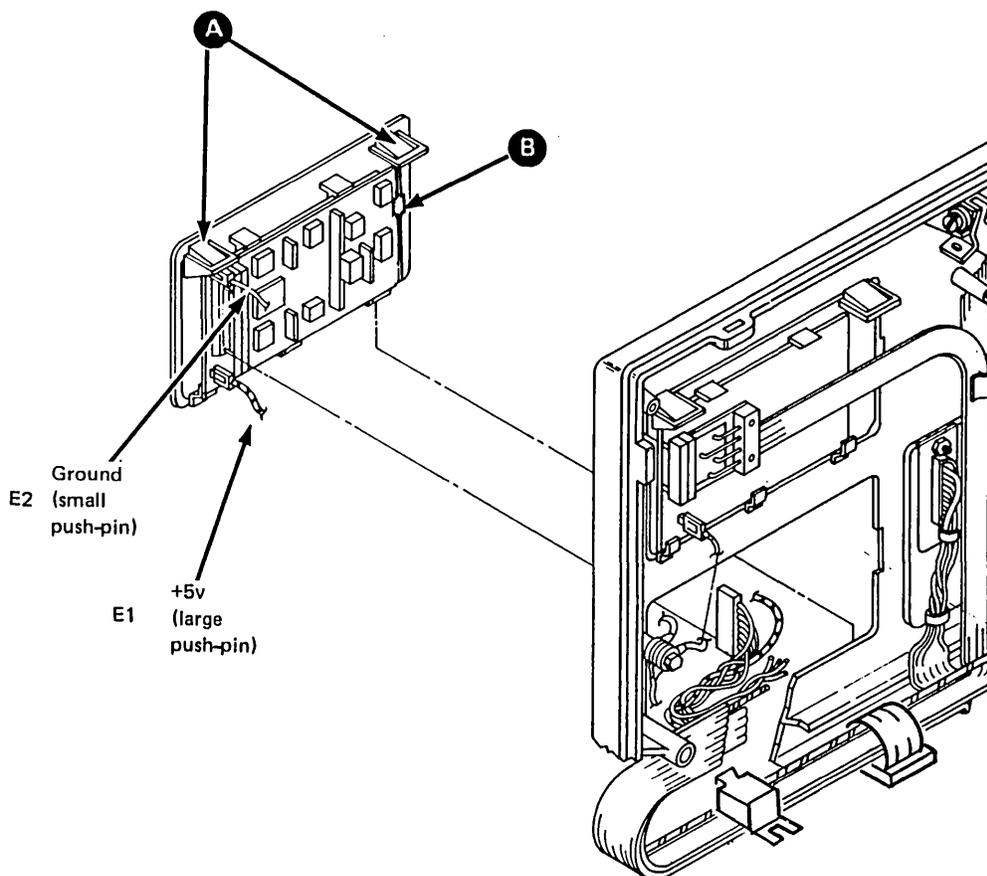

Figure 4-10. I/O Panel, Driver/Receiver Card
4.11 I/O Panel – Driver/Receiver, Removal and Replacement (Figure 4-10)